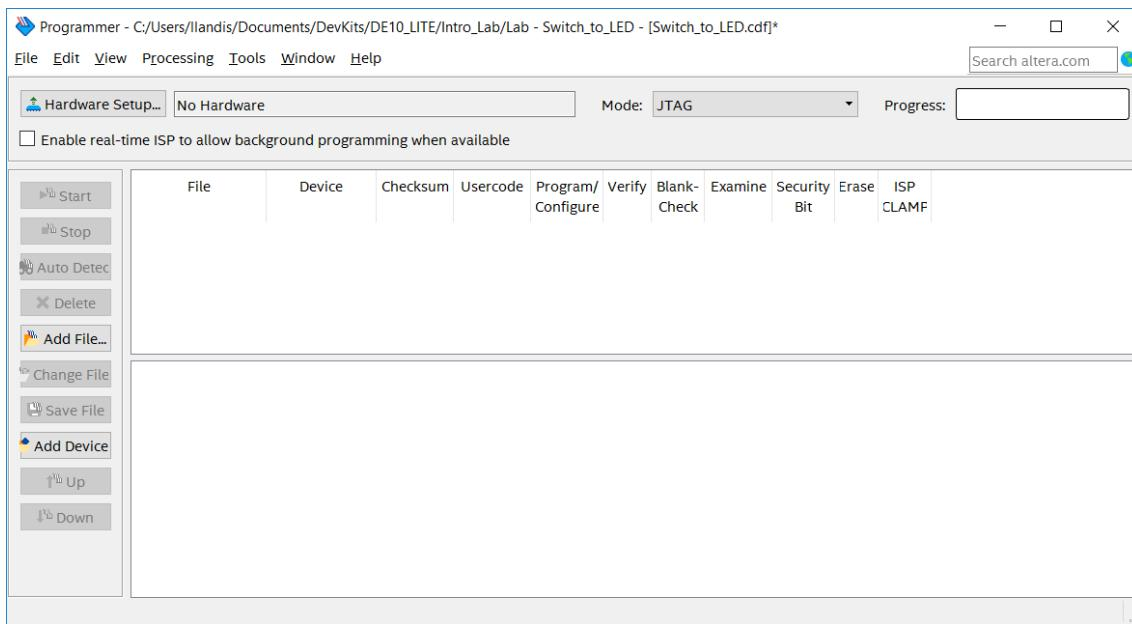

Figure 17: The Programmer window
- Return to Quartus Prime and click on  to open the Programmer. This button is located at the top of the main Quartus window. A screen similar to the one seen in Figure 17 below should appear.